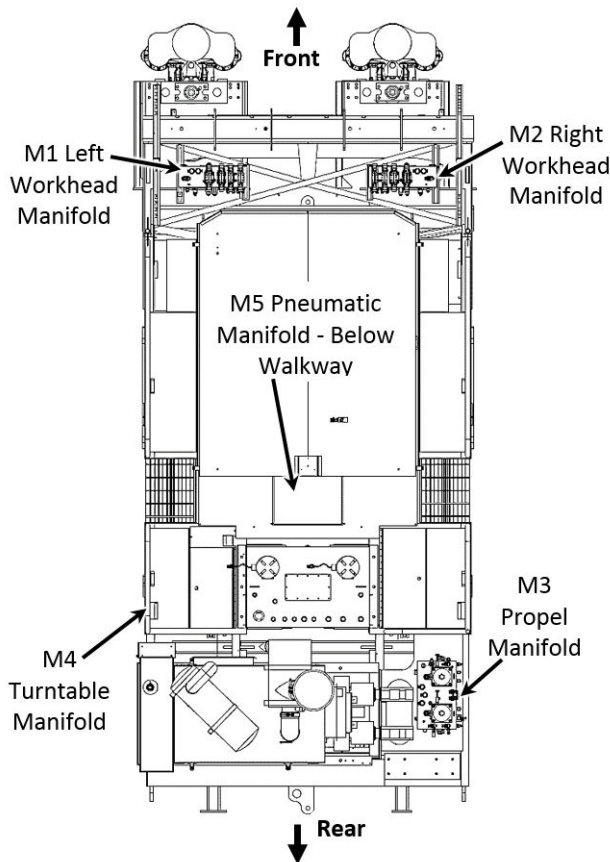
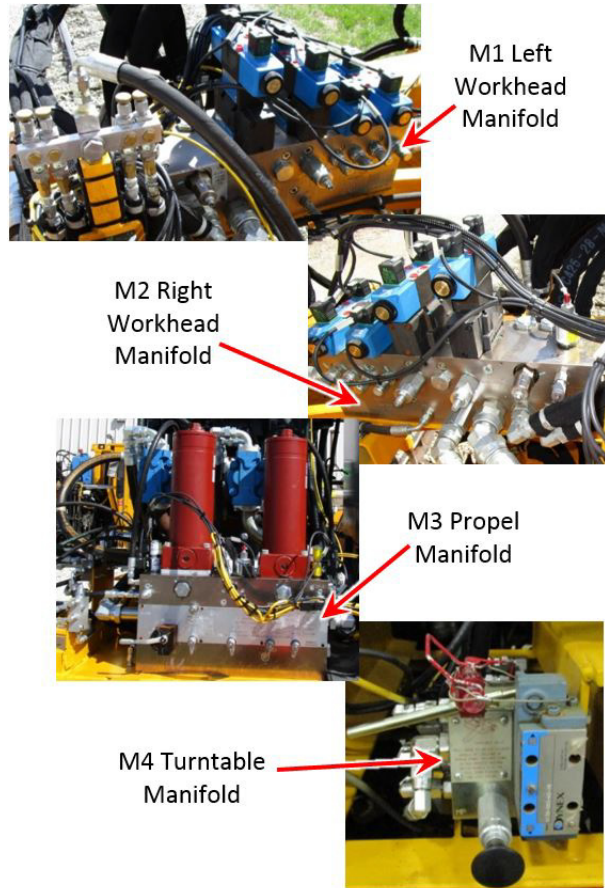

Figure 5-4: Manifold Locations
Figure 5-6: Hydraulic Manifolds
The hydraulic system on this machine uses four (4) hydraulic manifolds and one pneumatic manifold. More detailed information regarding the hydraulic system and manifolds can be found in the HYDRAULIC section included with this manual, and for the pneumatic system and manifold can be found in the PNEUMATICS section included with this manual. This includes a layout of the machine and the locations of all hydraulic components. See Figure 5-4, Figure 5-5, and Figure 5-6.